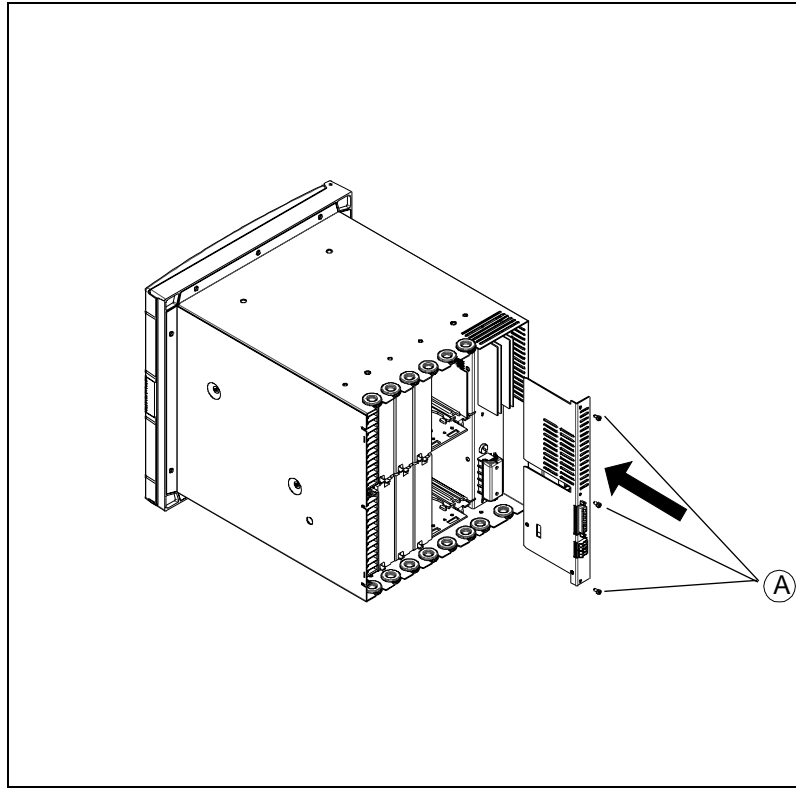

Figure 2-5
11. Replace the 3 fixing screws (see ref. A, Figure 2-5)
4. Connect the shield wire to the ground, at one end only, preferably at the recorder (see screws on figure 2-5, ref. A). Use for example a wiring cable type: Belden 9271 twinax, or equivalent.